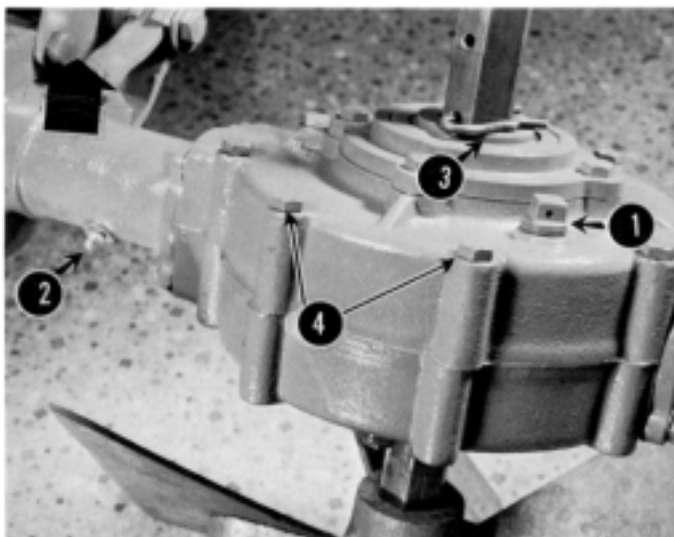

Figure 23
The Rotary Plow is attached to the Tractor by two Nuts and two Bolts. One Bolt and one Nut must be used to attach the Angle Adjusting Bracket, upper left in Figure 23.
Add oil by removing the Oil Filter Plug (1 in Figure 20). Use occasionally General Purpose Grease in the swivel casting grease fitting, (2 in Figure 23).
Use the pin or clip, (3 in Figure 23), in the Hex Shaft for initial Cutting depth adjustment. The higher on the Shaft the Pin is inserted, the greater the depth of cut and vice versa. Ordinarily, the Pin is inserted in one of the top holes for plowing and in the bottom hole for transporting.
The Dirt Shield is attached to the top of the Gear Housing by removing the bolts, (4 in Figure 23). inserting them through the Shield, and replacing in the Gear Housing. You can use the Dirt Shield to direct the throw of the dirt, by bending it up or down.
1. Leave the Plow Angle Adjusting Assembly (upper left in Figure 23) attached.